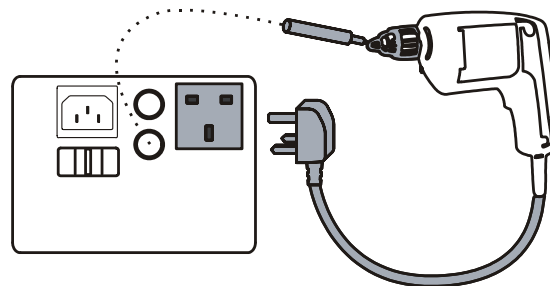

Figure 5. Insulation Test Connections
- 1  Connect the appliance and the probe as indicated on the tester, see also Figure 5. For Class I appliances no probe is required. For Class II appliances apply the probe to any exposed metalwork on the appliance.